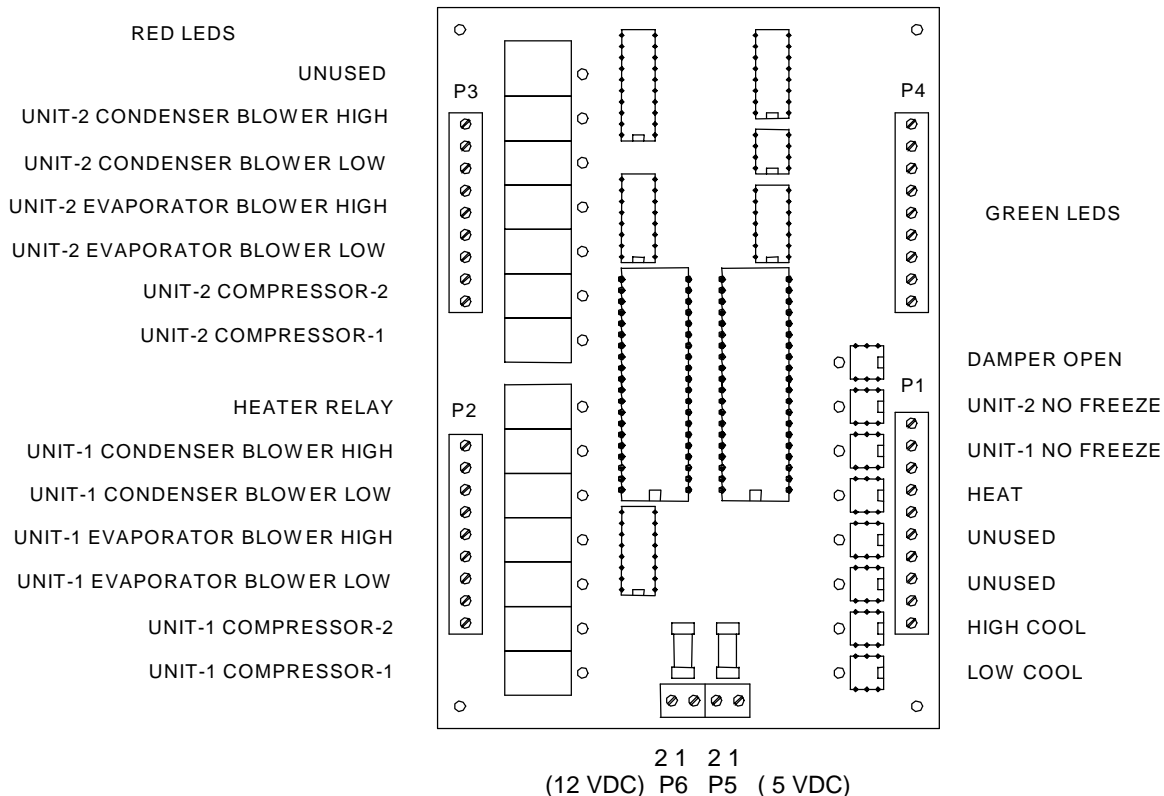
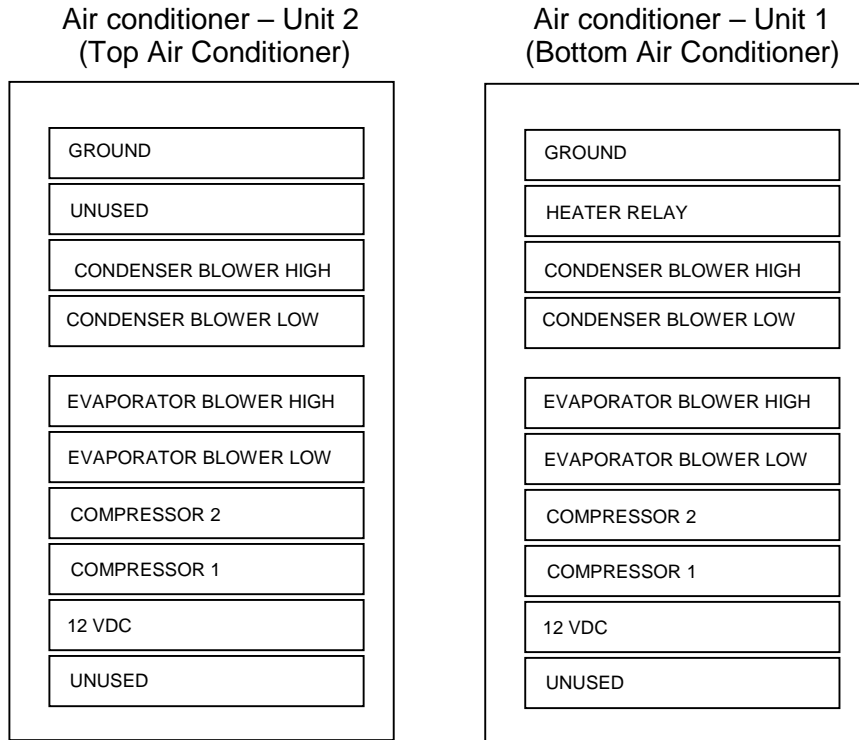

Figure 1. ECU Controller Board.
Figure 3. Air Conditioner Terminal Boards.
**Environmental Control Unit (ECU):** The ECU is controlled from the wall switch in the food preparation area. If the ECU is not cooling or warming properly, check that the ECU Mode Switch in the food preparation area is set to the proper position. At the ECU Control Box located on the Mechanical Room wall behind the generator, next to the air conditioners, check the power supply output voltage at P5 (5 VDC) and P6 (12 VDC) as shown in Figure 1. If the voltage is not correct, replace the power supply. If the voltage is correct, perform the following diagnostic check to isolate the problem to an individual ECU and verify operation of the ECU control card.
Remove the access panels of both air conditioners. Set the ECU Mode Switch in the operating area for High Cool. Monitor ECU operation by noting the LEDs as shown in Figure 1. LED configuration is also shown on the inside cover of the control box. As the air conditioners are automatically cycled through their operation (See Figure 2 for reference) note the sequence of events. As the LED turns on during the cycle, check the voltage at the air conditioner terminal board. A voltage of 12 VDC should be noted as each LED lamp comes on. See Figure 3.